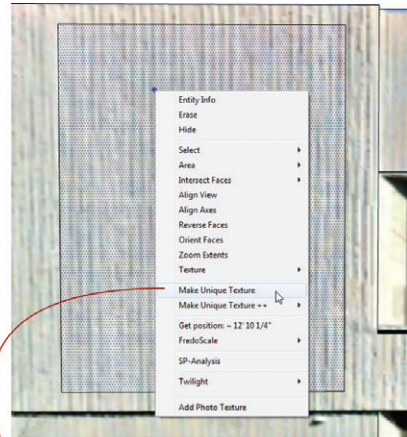

Figure 16.23 The “best” portion of the scored concrete material is captured in a rectangle.
1. Draw a rectangle around a piece of the scored concrete that is free of trees, shadows, and objects. A projected texture image's quality will be best toward the foreground of the Match Photo image (Figure 16.23).